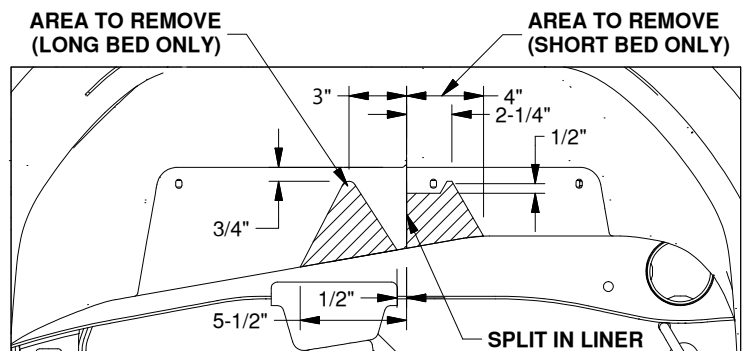

Figure G3: View looking into driver side wheel well.
- Modify fender liner.** If a fender liner is present, it will need to be modified by cutting a relief to allow the handle to move freely. See Figure G3 as a guide to cut the rear fender liner in the driver side wheel well.